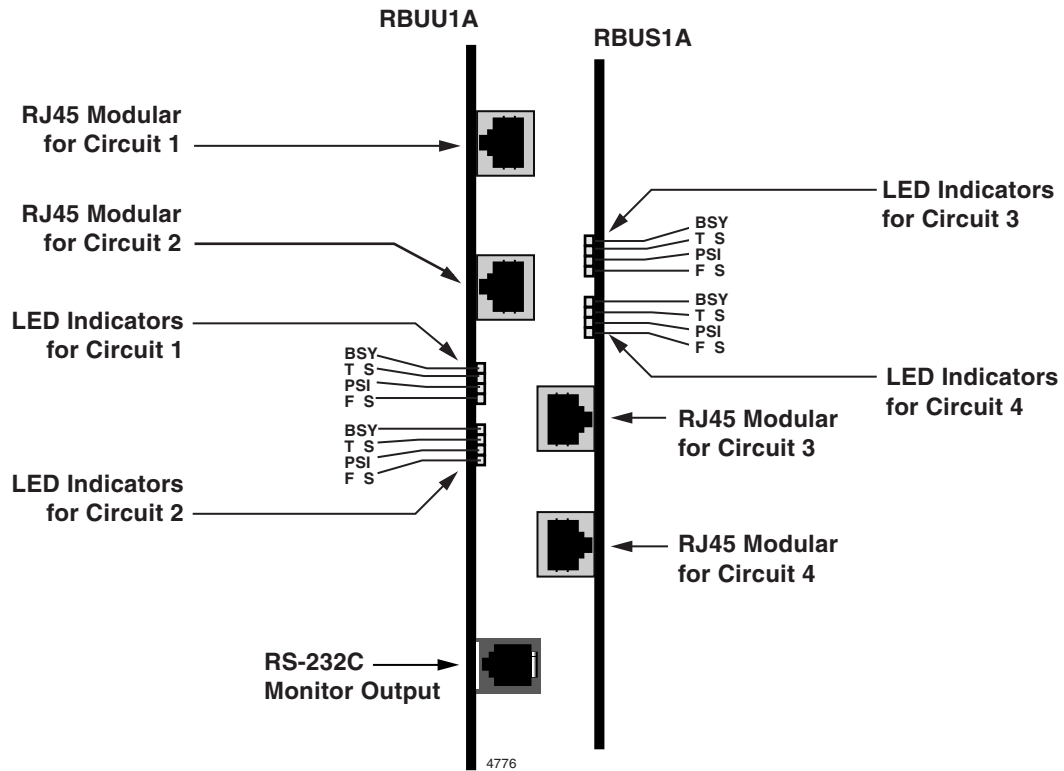

Figure 7-25 Location of LEDs and Connectors (RBUU/RBUS)
Figure 7-25 shows the location of the LEDs and connectors.
- The pin-out of the RBUU/RBUS BRI jack is shown in Figure 7-25: